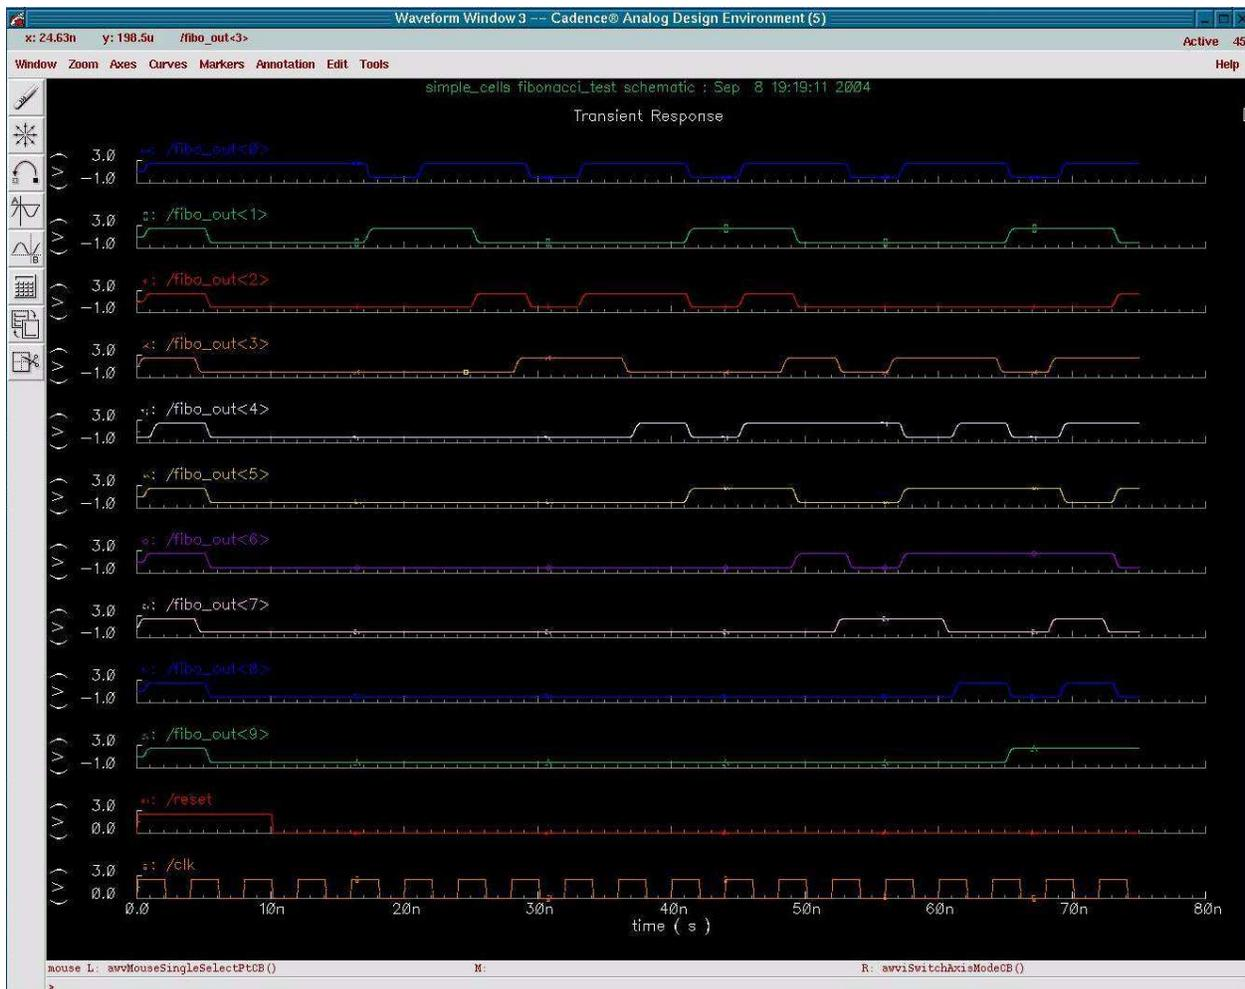

Figure 9: SPICE Output waveforms from `fibonacci_test` .
3. Open the testbench schematic (`fibonacci_test`) so that we can run it through SPICE. Invoke the Analog Design Environment. Configure it the same way you did for the previous runs but specify an analysis stop type of 75n. Plot the signals `clk`, `reset`, and `fibonacci_out<9:0>`. When finished, start the simulation run and if everything goes correctly, you should see something similar to the waveforms shown in Figure 9. Check that `fibonacci_out<9:0>` goes through the proper fibonacci sequence of  $\{1, 1, 2, 3, 5, 8, 13, 21, 34, 55, 89, 144, 233, 377, 610, 987, \dots\}$ . Note that the registers in the circuits are only 10-bits so they can only represent a maximum value of 1023 (unsigned). This means that after the value 987, the counter will overflow and produce garbage. This error is acceptable for our application as long as we realize this limitation and we take it into account. Since the only present purpose of this fibonacci counter is to serve as a vehicle to familiarize you with the CAD tools that are used in the VLSI digital design flow, this limitation is perfectly okay.